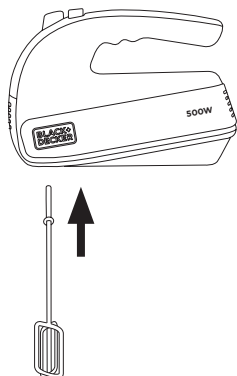

Fig.1A
- ♦ Beater accessory (I):
- ♦ Insert the beater into the orifices in the body of the motor pressing them in until you hear a click (Fig.1A). The beater can be placed in either of the two orifices, as they are identical.
- ♦ Put the food into the rotatory bowl (G) or into a large receptacle and switch the appliance on. For best results with BXXMX500E model, turn the whisk clockwise.
- ♦ Using speed selector control (B), from minimum speed, increase gradually to maximum speed.
- ♦ Remove the blending accessory pressing the eject button (A).
- ♦ Dough hook accessory (J):